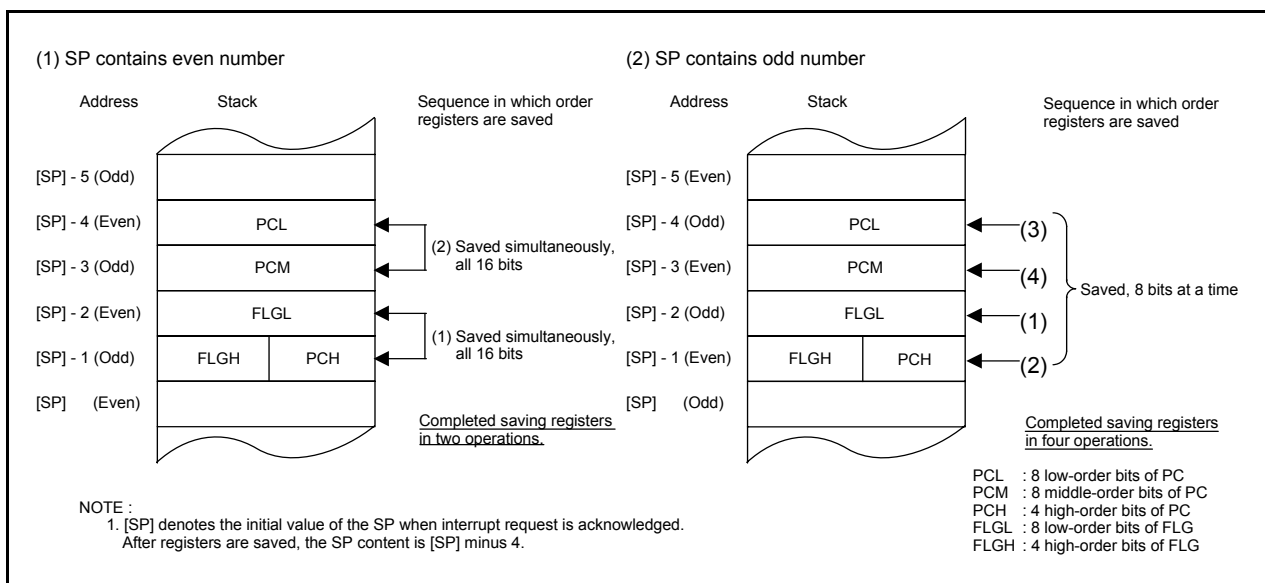

Figure 12.8 Operation of Saving Register
The operation of saving registers carried out in the interrupt sequence is dependent on whether the SP (1), at the time of acceptance of an interrupt request, is even or odd. If the SP (1) is even, the FLG register and the PC are saved, 16 bits at a time. If odd, they are saved in two steps, 8 bits at a time. Figure 12.8 shows the Operation of Saving Register.